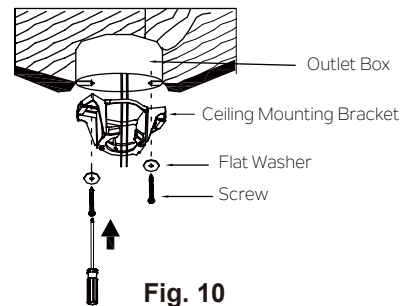

Fig. 10
Step 1. Before attaching fan to outlet box (not included), ensure the outlet box is securely fastened to at least two points to a structural ceiling member (a loose box will cause the fan to wobble). Pass the 120 volt supply wires from the ceiling outlet box through the center of the ceiling mounting bracket. Install mounting bracket to outlet box in ceiling using the screws and washers included with the outlet box. (Fig. 10)